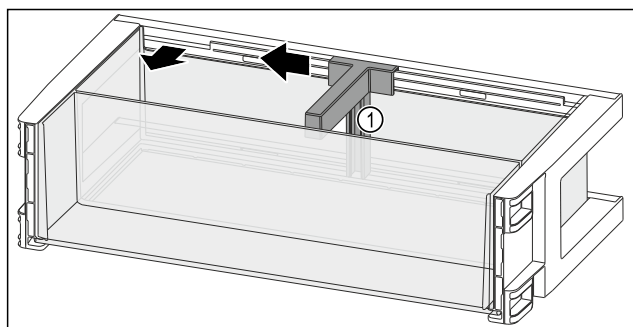

Fig. 132
- Slide the bottle holder *Fig. 132 (1)* to the side as far as the recess.
- Remove the bottle holder *Fig. 132 (1)*.